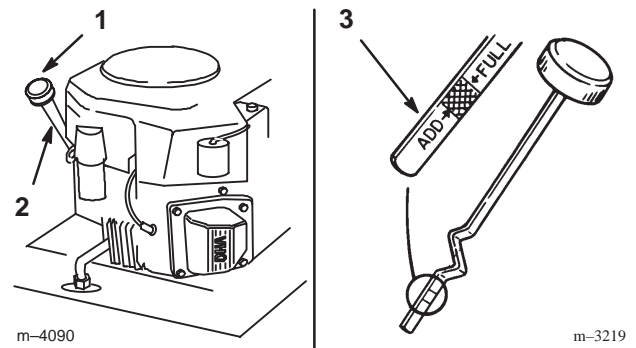

Figure 25
2. Clean around the oil dipstick (Fig. 25) so dirt cannot fall into the filler hole and damage the engine.
3. Unscrew the oil dipstick and wipe the metal end clean (Fig. 25).
4. Slide the oil dipstick fully into the filler tube, do not thread onto tube (Fig. 25). Pull the dipstick out and look at the metal end. If oil level is low, slowly pour only enough oil into the filler tube to raise the level to the "FULL" mark.
5. Slowly pour approximately 80% of the specified amount of oil, page 29, into the filler tube (Fig. 25). Now check the oil level; refer to Checking Oil Level, page 29. Slowly add additional oil to bring to “FULL” mark on dipstick.